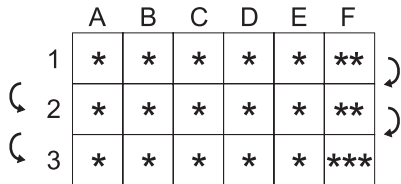

Figure 5. Beeps (*) and scrolling on a 6x3 grid batch
3. The Half-Cell Meter will then advance (scroll) to the next memory location. When the last memory location of a row in a grid is reached, the Half-Cell Meter will advance to the first memory location of the next row (Figure 5). When the final memory location in a grid or linear batch is filled, the Half-Cell Meter closes the batch and exits batching.